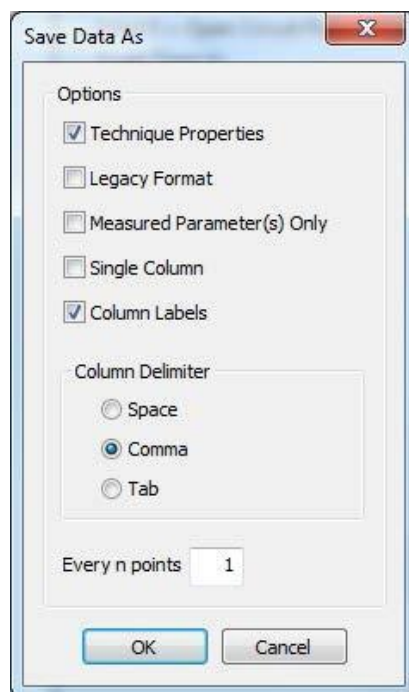

Figure 6 - File conversion
7. Use **Save** in the **File** menu to save the data in the active .edata window. The data can be converted to a number of different text formats using **Save Data As** in the **File** menu (Figure 6). Select the desired options and the delimiter, and then click **OK** to save the converted Data.